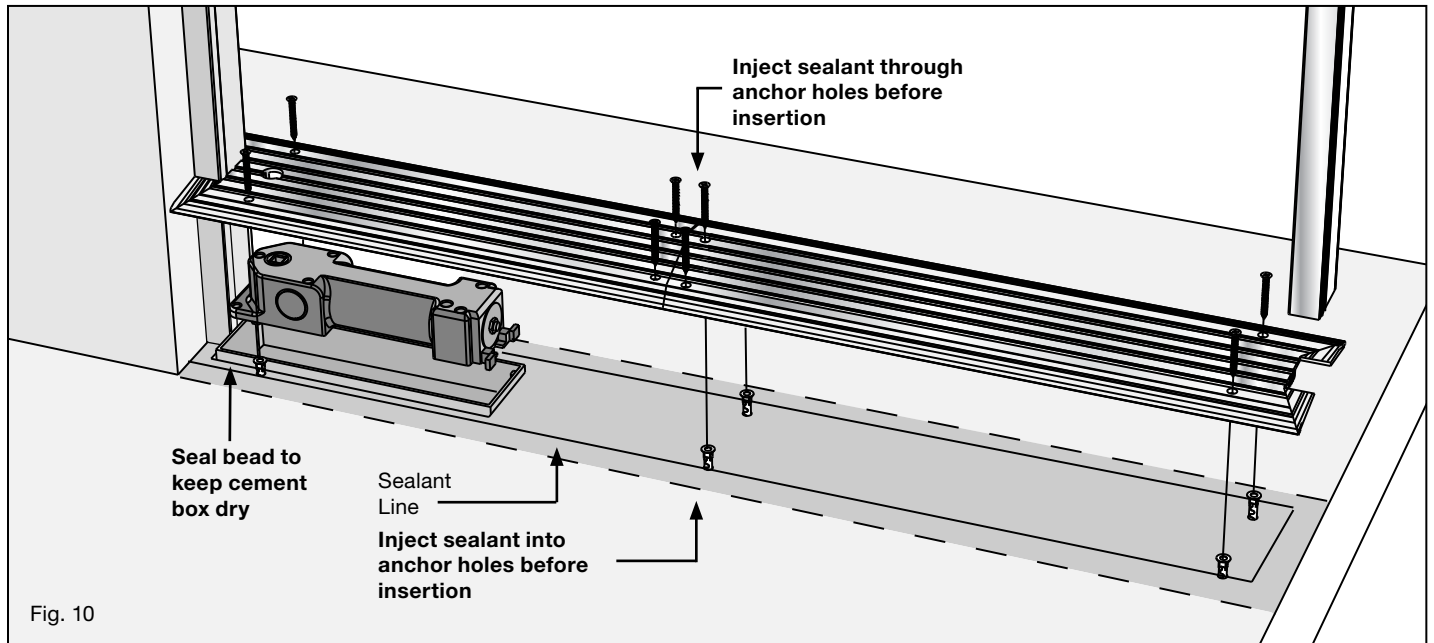

Fig. 10
4. Install threshold with perimeter sealant and flathead fasteners. **(Figure 10)**